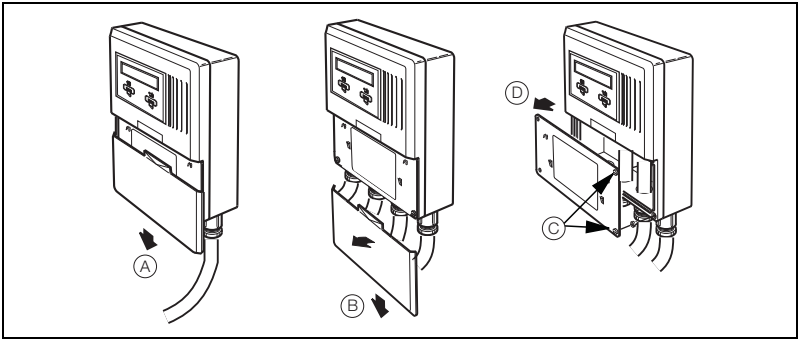

Fig. 4.1 Removing the MagMaster Covers
1. Turn off the power to the MagMaster and remove the covers – see Fig. 4.1.